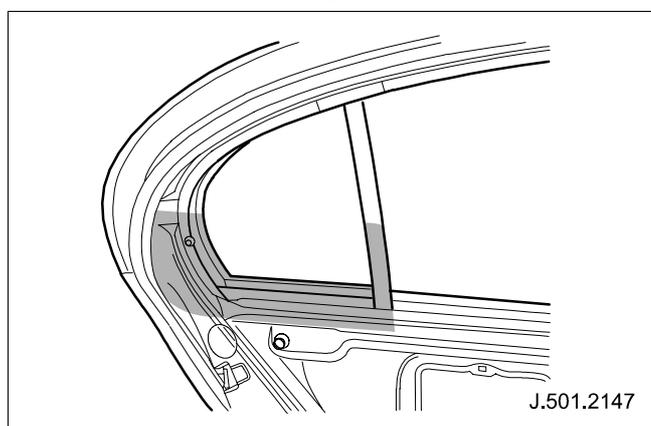

Fig. 10
- 2 Door latch: water ingress via sixth light. (See Fig. 10)